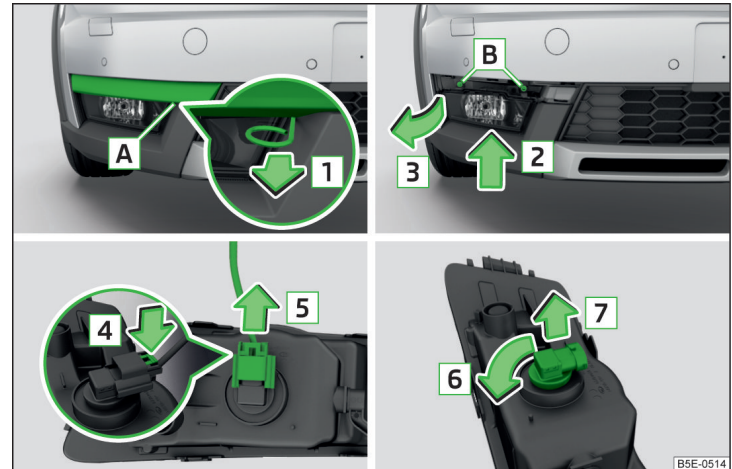

Fig. 241 Remove the fog lamp / bulb change - Version 2
- Insert in opening **A** » Fig. 241 the clamps for removing the full wheel covers » page 208, *Vehicle tool kit*.
- » Fig. 241 and tighten.